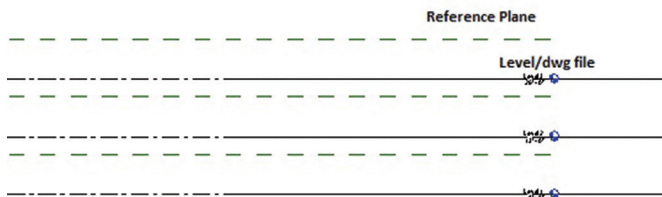

Figure 1
4. In the open elevation view, create reference planes for a general ceiling location and name reference plane appropriately (see Figure 1). (For different ceiling heights, different planes can be created, but remember the expected scope of work—they are necessary for the deliverables? The fewer planes, the less confusing it is when it's time to model. I only use one for all ceilings per level.)